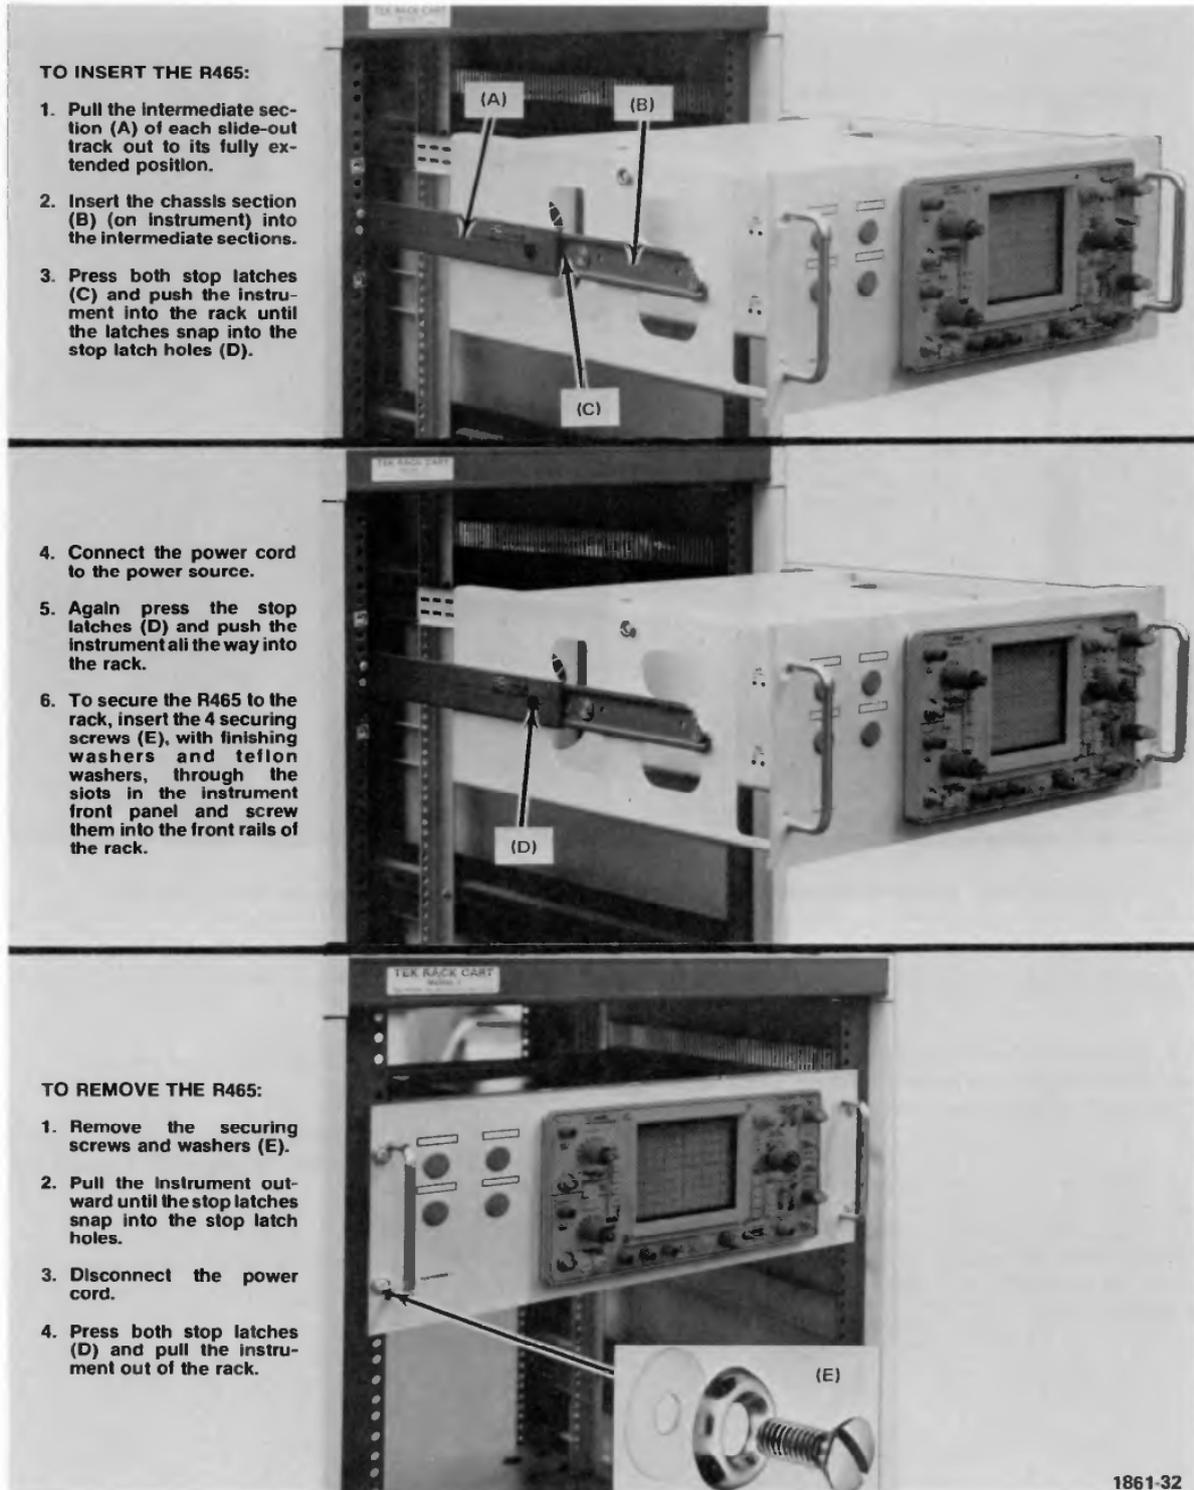

Figure 2-17. Procedure for inserting or removing the instrument after the slide-out tracks have been installed.
6. Refer to Figure 2-17 to insert the instrument in the rack. Do not connect the power cord or install the securing screws until all adjustment have been made.
13. Push the instrument all the way into the rack and secure it to the rack with the securing screws and washers as shown in Figure 2-17.
After initial installation and adjustment of the slide-out tracks, the R465B can be removed or installed by following the instructions given in Figure 2-17. No further adjustments are required under normal conditions.